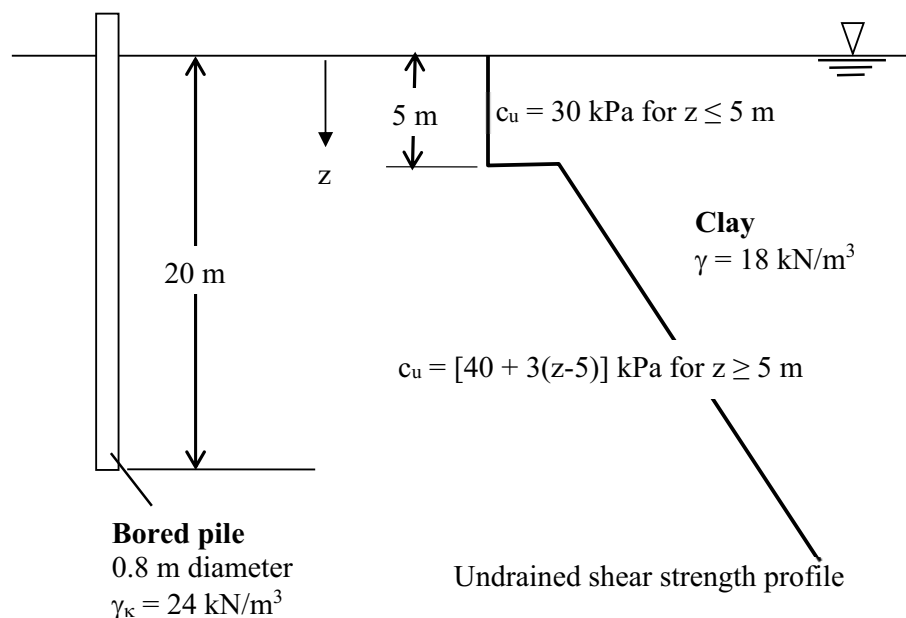

Figure Q3
- (a) A 0.8 m diameter bored pile (weight density = 25 kN/m^3) is to be formed in a clay site with the representative undrained shear strength (c_u) profile as shown in Figure Q3. The groundwater table is at the ground surface. Determine the ultimate axial load capacity of the pile under undrained condition if the embedment length of the pile is 20 m. (14 marks)